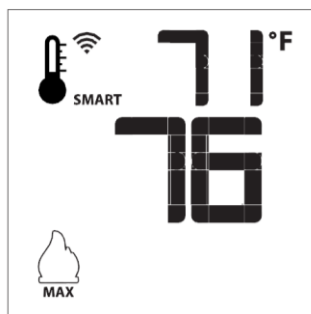
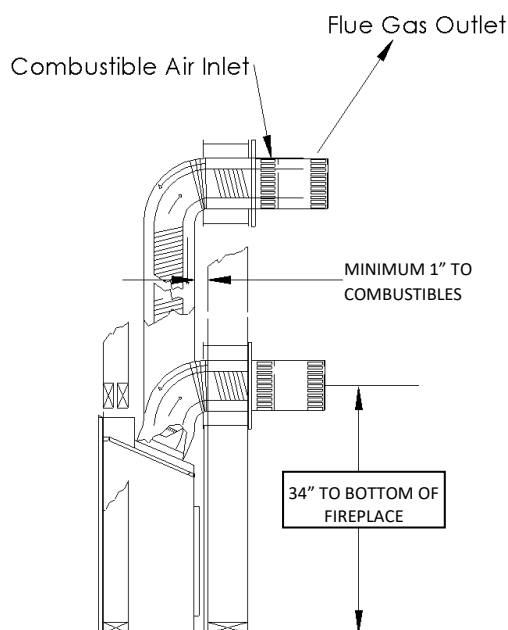

Fig. 11: Smart flame function
Figure 1
To activate this function, press the Thermostat Key (Fig. 1). The LCD display on the Transmitter will change to show that the room thermostat is "ON" and the set temperature is now displayed (Fig. 9). To adjust the set temperature, press the Up or Down Arrow Keys until the desired set temperature is displayed on the LCD screen of the Transmitter.
To activate this function, press the Thermostat Key (Fig. 1) until the word "SMART" appears to the right of the temperature bulb graphic (Fig. 11).
If the appliance is equipped with a hot air circulating fan, the speed of the fan can be controlled by the Proflame system. The fan speed can be adjusted through six (6) speeds. To activate this function use the Mode Key (fig.1) to index to the fan control icon (Fig. 13). Use the Up/Down Arrow Keys (Fig.1) to turn on, off or adjust the fan speed (fig. 14). A single "beep" will confirm reception of the command.
The auxiliary function controls the AUX power outlet by the dimmable light control. To activate this function use the Mode Key (fig. 1) to index to the AUX icon (fig. 15 & 16).
The intensity of the output can be adjusted through six (6) levels. Use the Up/Down Arrow Keys (Fig.1) adjust the output level (fig. 16). A single "beep" will confirm reception of the command.
Place the spring spaces provided approximately every two feet to stabilize 4" flex in the center of 7" flex. When forming bends place spring in bend or before and after. (See Fig. 1). Horizontal runs require support metal straps every 2 feet. In offset installation support straps should be used to stabilize pipe.
Expand 4" and 7" flex pipe to the point that the 7" protrudes approximately 2 to 3 inches past outer wall and the 4" flex protrudes approximately 2 to 3 inches past the 7" flex. (See Fig. 1). Attach the 4" pipe to the termination first and secure with sealant and screws then attach the 7" flex to the termination with caulking and screws. Termination may then be moved back to the outer wall and attached to home screwing into the framing. Silicone around termination to waterproof. If siding shield is going to be used attach this using same attaching hole as the top of termination after termination has been caulked for water proofing.
4. To install wall thimble center over 11" x 11" (inch) framing from both sides of wall and secure. Route flex vent pipe through wall thimble (See Figure 1).
8. Support horizontal pipes every two (2) feet (61 cm) with metal strap bands. Re-check fireplace to make sure it is levelled and properly positioned and secured.